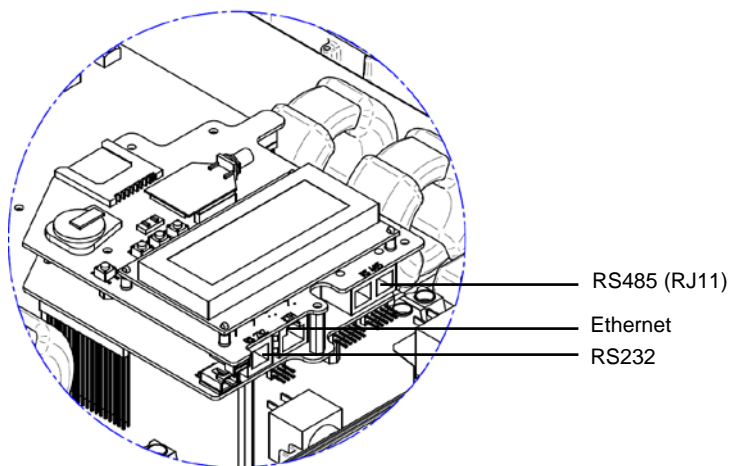

Figure 34: Ethernet and RS485 – RJ45/RJ11 Connectors
- Connect the Ethernet connector to the RJ45 plug on board in the inverter, as shown in Figure 34.